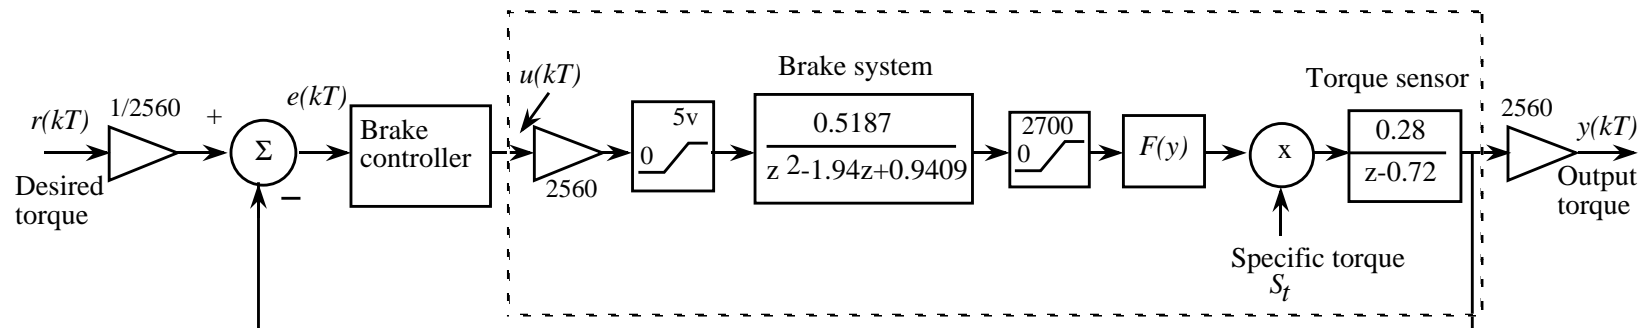

Figure 23: Base braking control system.
- Figure 23 shows the diagram of the base braking system